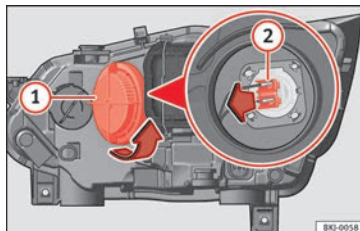

Fig. 110 In the engine compartment: main beam headlight bulb.
- Turn the cover **1** anti-clockwise and take it out » **Fig. 110**.